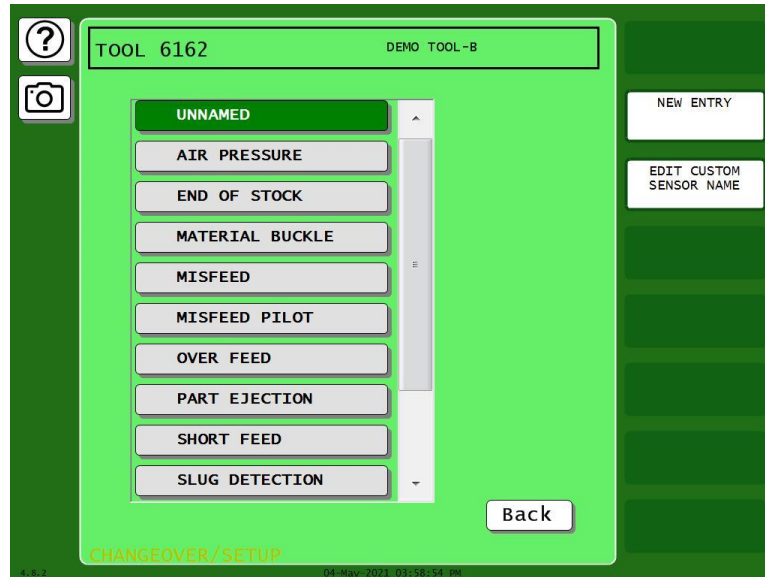

Figure 6-25. Sensor Name List
1. On the Die Protection Sensor menu, Figure 6-29, press the setting you want to change. The screen on which that setting is programmed displays. For example, if you select the **SENSOR NAME** setting, the Sensor Name List screen displays, Figure 6-25, page 190.